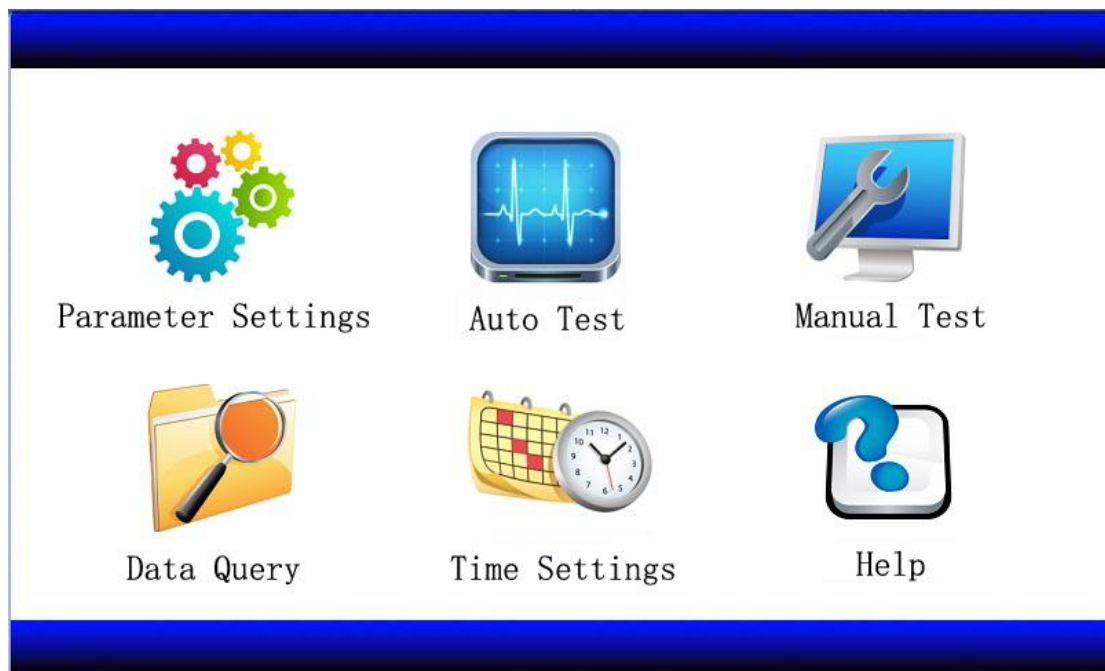

Figure 2
2.1 After booting, the display interface is shown in Figure 2.